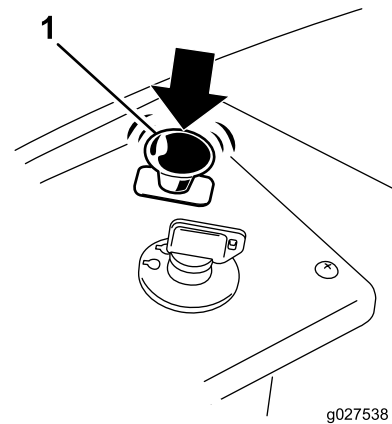

Figure 13
1. Disengage the blades by pushing the blade-control switch to OFF (Figure 13).